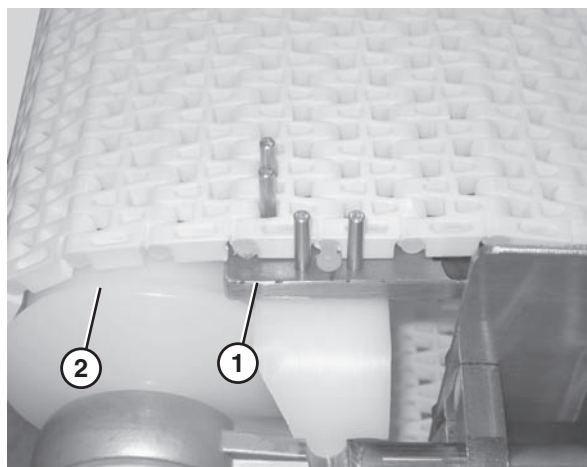

Figure 53
2. Secure the retaining head side of the belt. Use the belt removal tool (**Figure 53, item 1**) for 1" pitch belts. For all other belts, position the section of belt so that it is braced by the flanged puck (**Figure 53, item 2**).